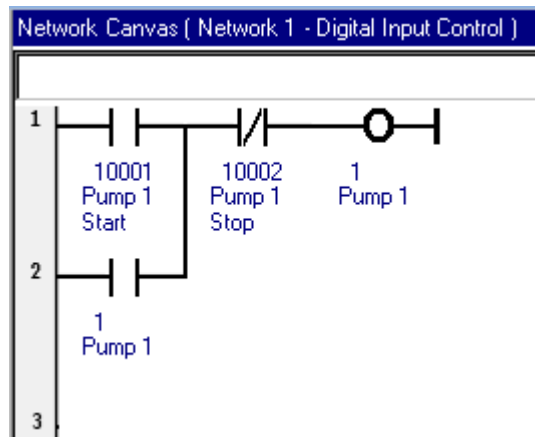

Figure 32: Pump Start Program
- Insert the **elements** as shown in Figure 32: Pump Start Program.